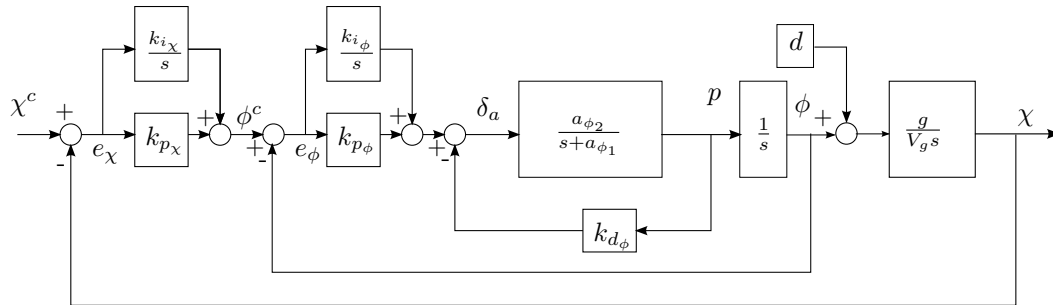

Figure 1: Successive loop closure for autopilot design.
Figure 1 shows the block diagram for a lateral autopilot using successive loop closure. The autopilot is based on a simplified version of the coordinated turn equation and a linearization of the roll dynamics from the book [1]. This represents an autopilot for course hold using aileron  $\delta_a$  as control input. The disturbance  $d$  in Figure 1 models a bias in the coordinated-turn equation, and should have a constant value of 1.5 degrees. It should not be included in the roll feedback loop.
- Find numerical values for  $a_{\phi_1}$  and  $a_{\phi_2}$  based on the state-space model (1).
- Find numerical values for the five gains in Figure 1 associated with the lateral autopilot using successive loop closure. Use root-locus analysis to propose an interval where the integral gain in the roll loop ( $k_{i_\phi}$ ) should be chosen within in order to maintain system stability. Include a figure of the root-locus analysis in your report and remember to specify the input range for the gain somewhere in the figure (use both positive and negative gain values). Justify how you choose the design parameters in the course loop.
- d) Present simulation results for the system in Figure 1 with course changing maneuvers: choose a series of steps (you may choose yourself the desired values). Comment on the results. You should not have larger steps than  $\pm 15$  degrees. Include figures of the course and the aileron input in the report.
- e) Present simulation results for course changing maneuvers (choose the same desired values as in Problem 2d) with the complete state-space model (1). Keep your control gains from Problem 2d). The aircraft model must be the complete state-space model, including the actuator dynamics, and the simplified version of the coordinated turn equation must be replaced by the real coordinated turn equation (4). Moreover, the system dynamics (1) should replace the simplified roll dynamics in Figure 1. Remember to add the bias  $d$  at the appropriate place. Compare the results with the results obtained in Problem 2d). Would you say that the simplified model in Problem 2d) accurately reproduce the true dynamics? Include figures of the course and aileron input in the report.